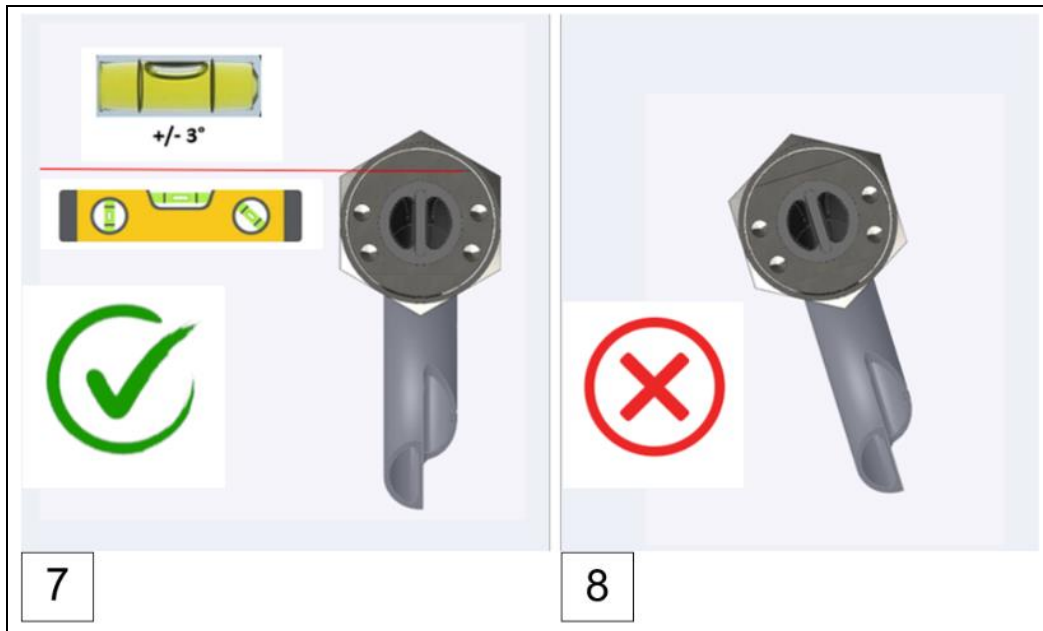

Fig.: 26 : Installing the engine wall connection for VN301plus (steps 1 - 8)
- ▶ The intake position of the intake manifold must be outside areas with direct splash oil. (see Fig. 26)